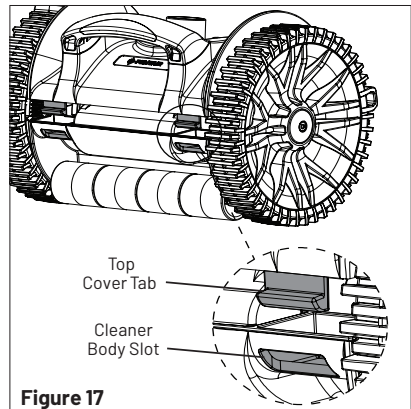

Figure 17
10. Place the tabs on the back side of the top cover into the slots on the back side of the cleaner body (see **Figure 17**). Once these tabs are seated in the slots the front of the cover will fall into place.